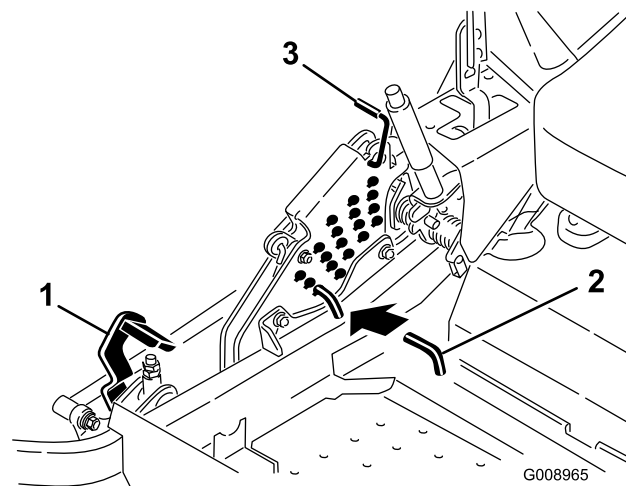

Figure 26
2. Push on the deck lift pedal with your foot and raise the mower deck to the transport position (also the 5-1/2 inch (140 mm) cutting height position) (Figure 26).
3. To adjust, rotate the pin 90 degrees and remove the pin from the height-of-cut bracket (Figure 26).
4. Select a hole in the height-of-cut bracket corresponding to the height-of-cut desired and, insert the pin (Figure 26).